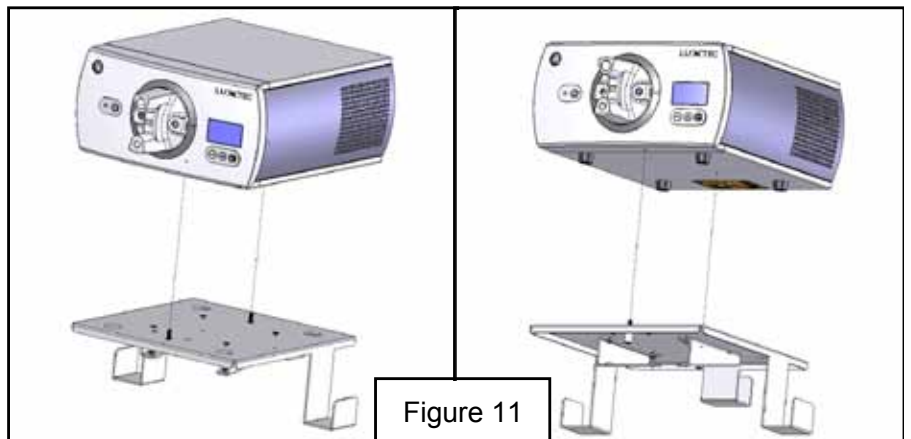

Figure 11
4. Secure the light source to base plate by aligning the feet to the holes on the surface of the plate. Tighten the two screws on the bottom of the plate to the light source (Figure 11).